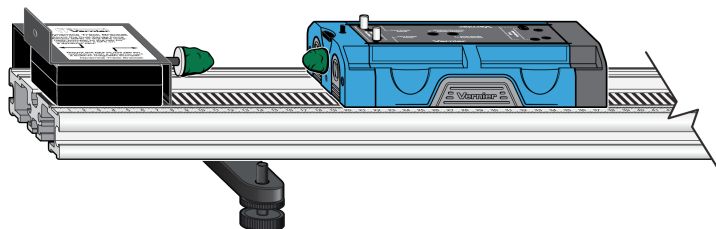

Figure 3
14. Replace the hoop spring bumper with one of the clay holders from the Bumper and Launcher Kit. Attach cone-shaped pieces of clay to both the clay holder and to the front of the cart, as shown in Figure 3.